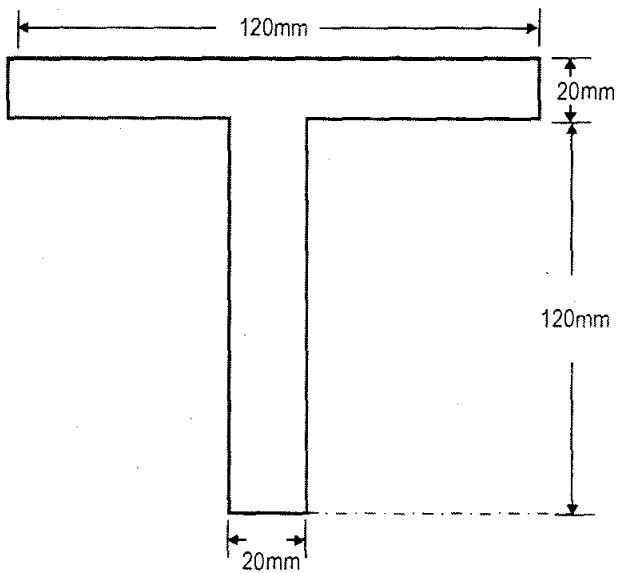

Figure 5
- (b) Calculate the shear stress of 'T' section at the centre of gravity of the section (figure 5). This section is subjected to a shear force of 50 kN. [7]